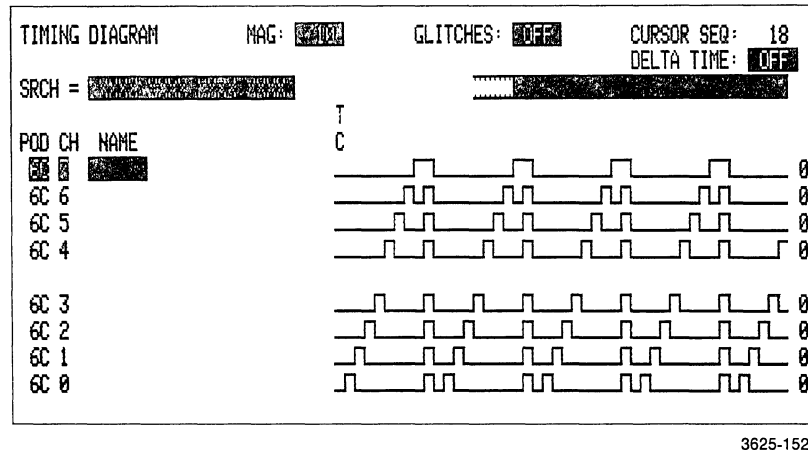

Figure 5-24. Initial test data acquired by the 91A08.
8. Set the magnification of the Timing Diagram to 10; this should show a display like Figure 5-24. Proper data verifies that pod C acquires data and that the 91A08 qualifier operates. The trigger word is not critical.
12. The data acquired through pod C should look like Figure 5-24 when viewed on the Timing Diagram menu. Proper data verifies that qualifier C operates.